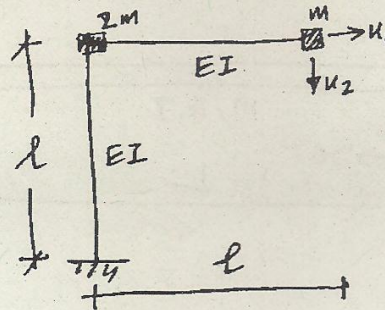

Fig. 4
- (b) Formulate the free vibration equations for the two element frame of Fig. 4. The frame is massless with lumped masses at the two nodes shown.  $EI$  is constant. Determine the natural frequencies and modes of vibration of the system.